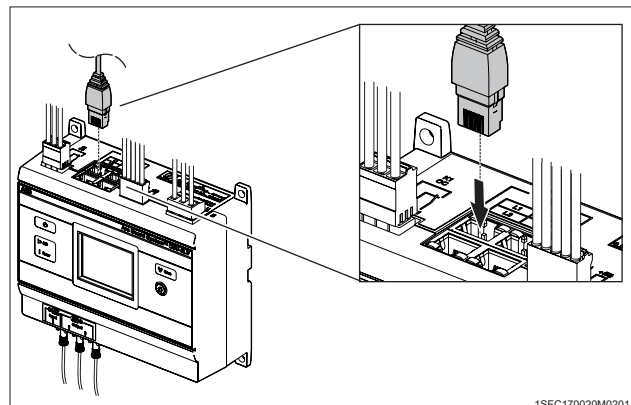

Figure 13
2. Connect the current sensors to CSU-2 inputs, L1, L2, L3 or N, depending on the configuration. See **Figure 13**.